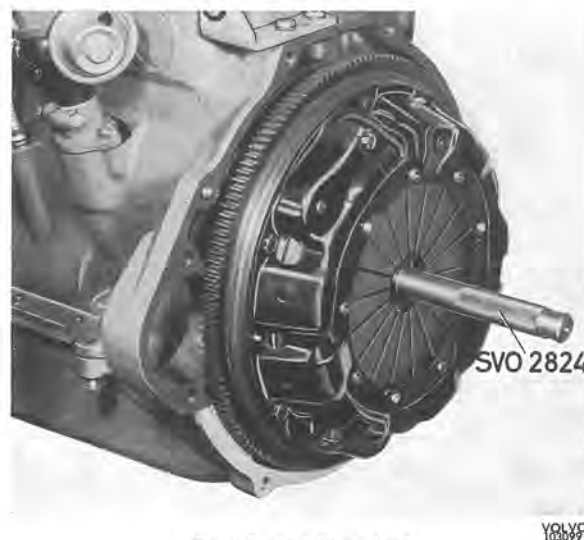

Fig. 4-8. Installing clutch
1. Set up the clutch plate (the longest side of the hub facing backwards) together with the clutch against the flywheel and insert the centering mandrel SVO 2824 so that the guide journal on this centers the pilot bearing in the flywheel, see Fig. 4-8.